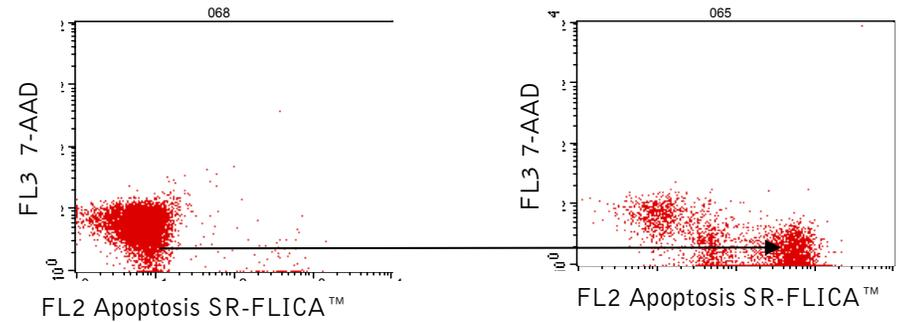
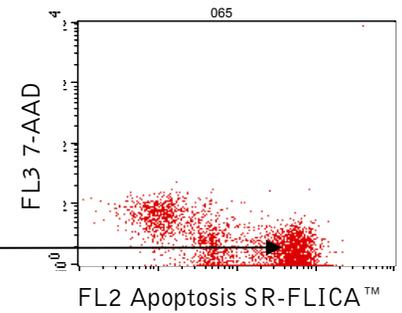

Figure 6a: Control D, non-induced CFSE and SR-FLICA™ stained cells.
Figure 6b: Control E, apoptosis-induced CFSE and SR-FLICA™ stained cells used to set up the instrument.
**Control D:** Run a non-induced, CFSE and SR-FLICA™ dually-stained target cell control tube to properly compensate FL2 SR-FLICA™ vs. FL3 7-AAD, Figure 6a. Depending upon your cell line, a small percentage of the negative control population will naturally undergo apoptosis and appear to the right.
**Control E:** If possible, use an apoptosis-induced, CFSE and SR-FLICA™ dually-stained target cell control tube to properly compensate FL2 SR-FLICA™ vs. FL3 7-AAD, Figure 6b. Compared with non-induced cells (Control D, Figure 6a), apoptotic cells will shift to the right (not all cells will undergo apoptosis).